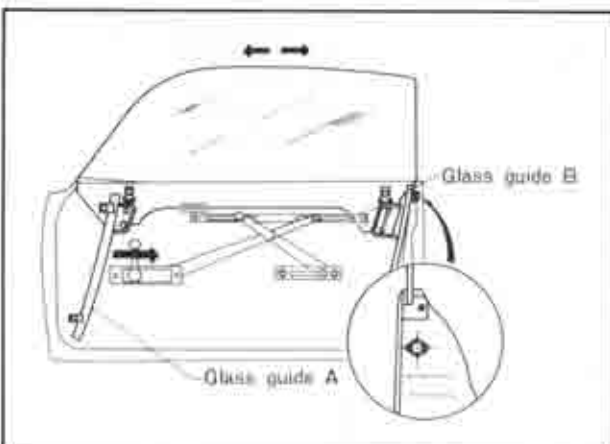

Fig. 14-61 Fore and aft adjustment
- Push rearwards the glass guide A as shown in Fig. 14-61 and tighten the upper bolt.